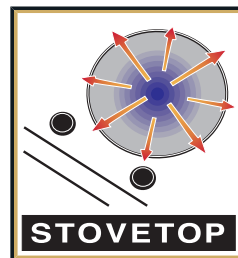

Fig. 15d
- The **Side burner** boils sautés, stir fries or warms all with equal aplomb. Plus its high power is more than adequate for deep frying seafood, vegetables and meats or hard boiling soups, lobsters or corn on the cob (see Fig. 15d).